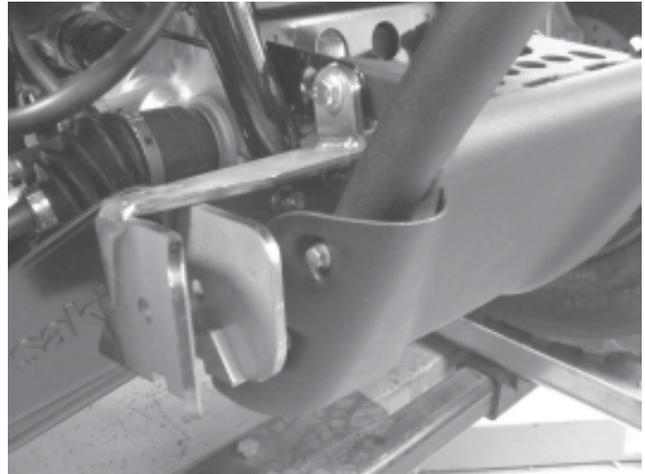

Figure 8
10. Reinstall the front skid pan with the original factory fasteners (Figure 8).